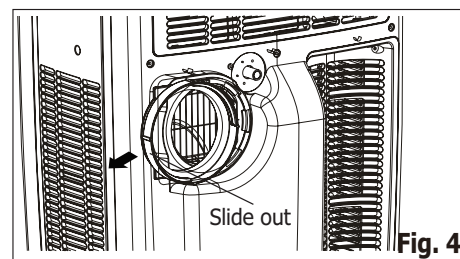

Fig. 4
2. Remove adaptor A from unit by sliding sideways (Fig. 4).